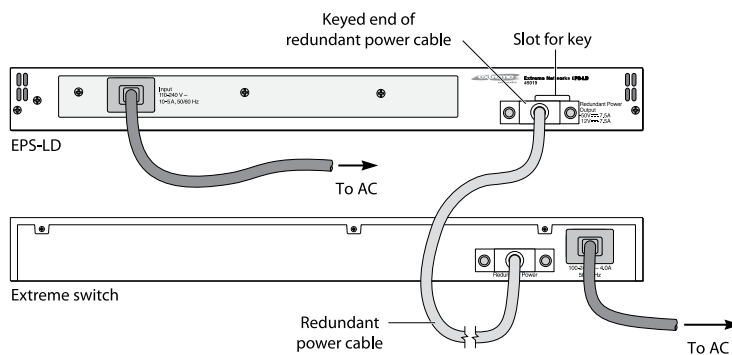

Figure 303: Connecting an EPS-LD Unit to a Switch
- Connect the keyed end of the cord to the power supply unit (see Figure 303: Connecting an EPS-LD Unit to a Switch on page 332).